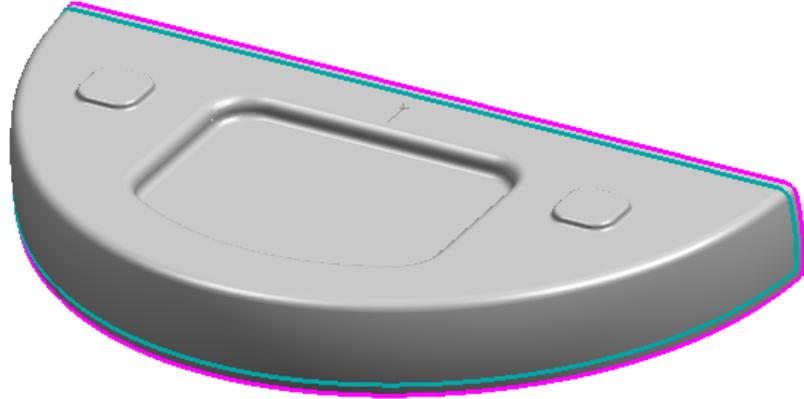

Figure 4–48
1. Open **PRODUCIBILITY_B.prt**. The model displays as shown in Figure 4–48.